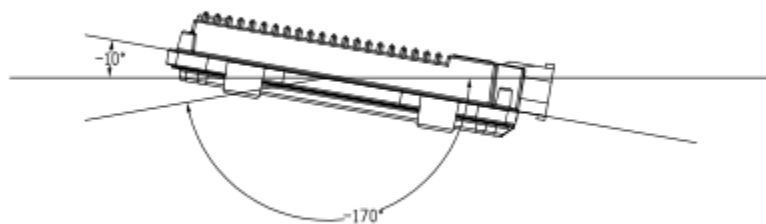

Figure 12 Horizontal Installation Angle
7. FCU should be installed in the horizontal and vertical position according to the connector downwards and maintain a certain angle to prevent water from entering the connector. In the horizontal direction, the recommended installation angle is  $-170^{\circ}$  to  $-10^{\circ}$ , as shown in Figure 12 below. In the vertical direction, the recommended installation angle is  $-170^{\circ}$ ~ $-10^{\circ}$ , as shown in Figure 13 below.